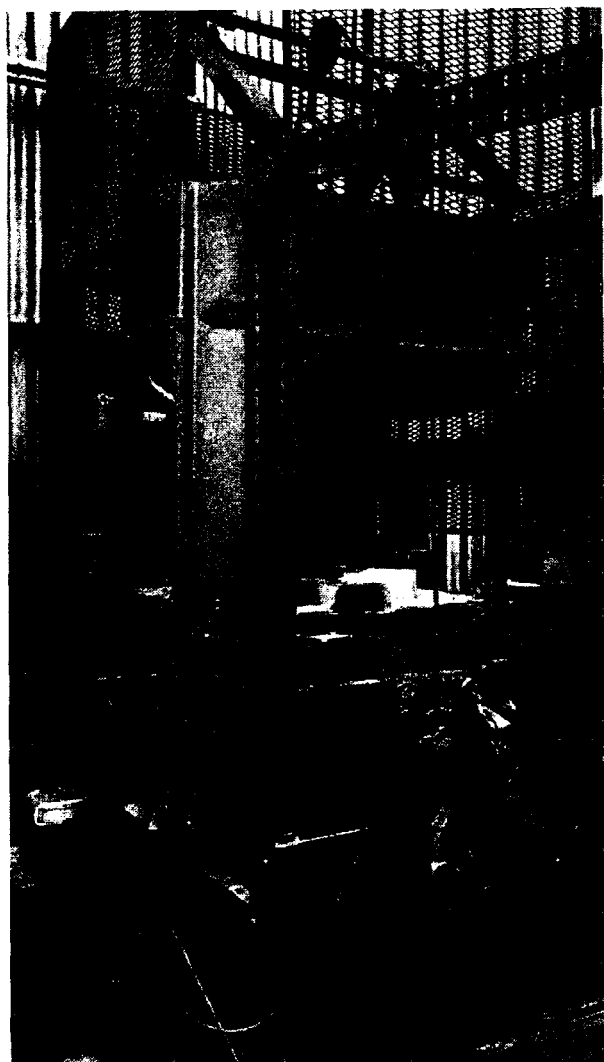

FIG. 2—MEASUREMENT OF THE THERMAL CONDUCTIVITY OF A REFRACTORY
- (c) A machine to measure the thermal conductivity of refractory test panels at up to  $1400^{\circ}\text{C}$ . This is shown in FIG. 2. A standard-sized slab of the material ( $450 \times 330 \times 75$  mm) has thermocouples set into the hot face, the middle, and the cold face, and is then bedded on to a calorimeter in the well of the furnace. The hot face is then heated overnight at the selected temperature (up to  $1400^{\circ}\text{C}$ ) and the heat flow and thermocouple readings are taken. From these, the thermal conductivity at various mean temperatures can be calculated.